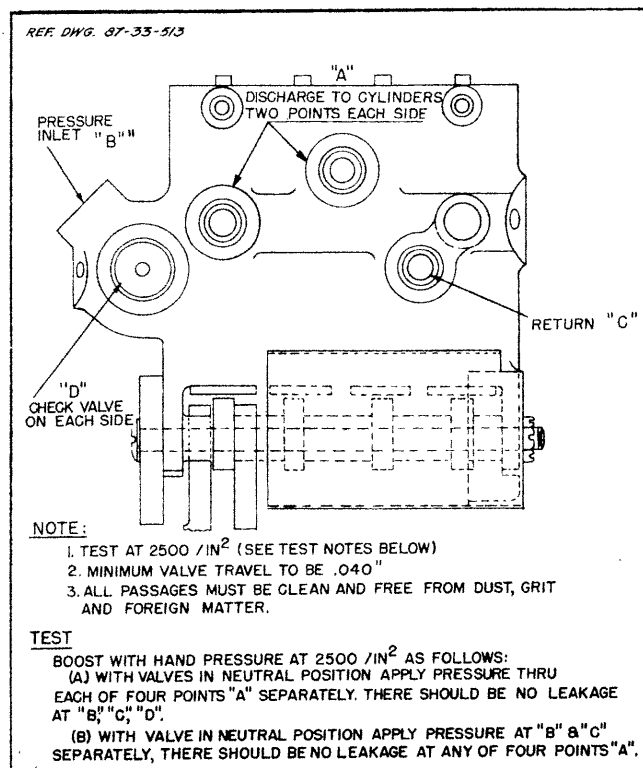

Figure 141 - Hydraulic Control Valve Pressure Test Data
(6) Before installing the control valve in the airplane test the valve under pressure in accordance with the instructions outlined in figure 141.